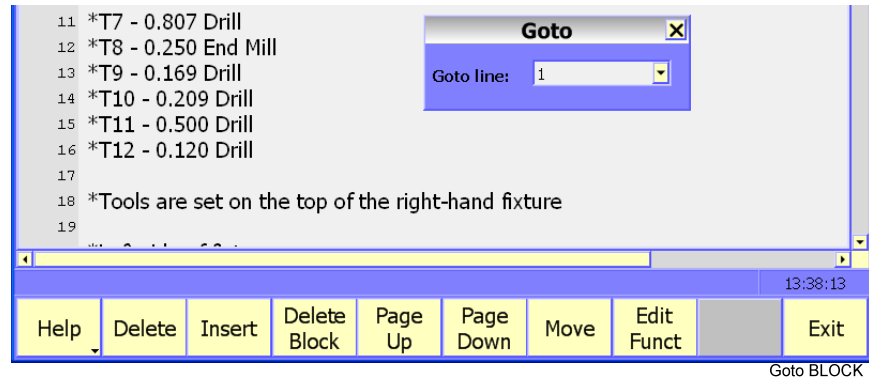

Figure 6-6, Goto Block Dialog Prompt
2. Highlight **Goto Block**. And press enter to display the Goto dialog prompt. Refer to **Figure 6-6, Goto Block Dialog Prompt**.